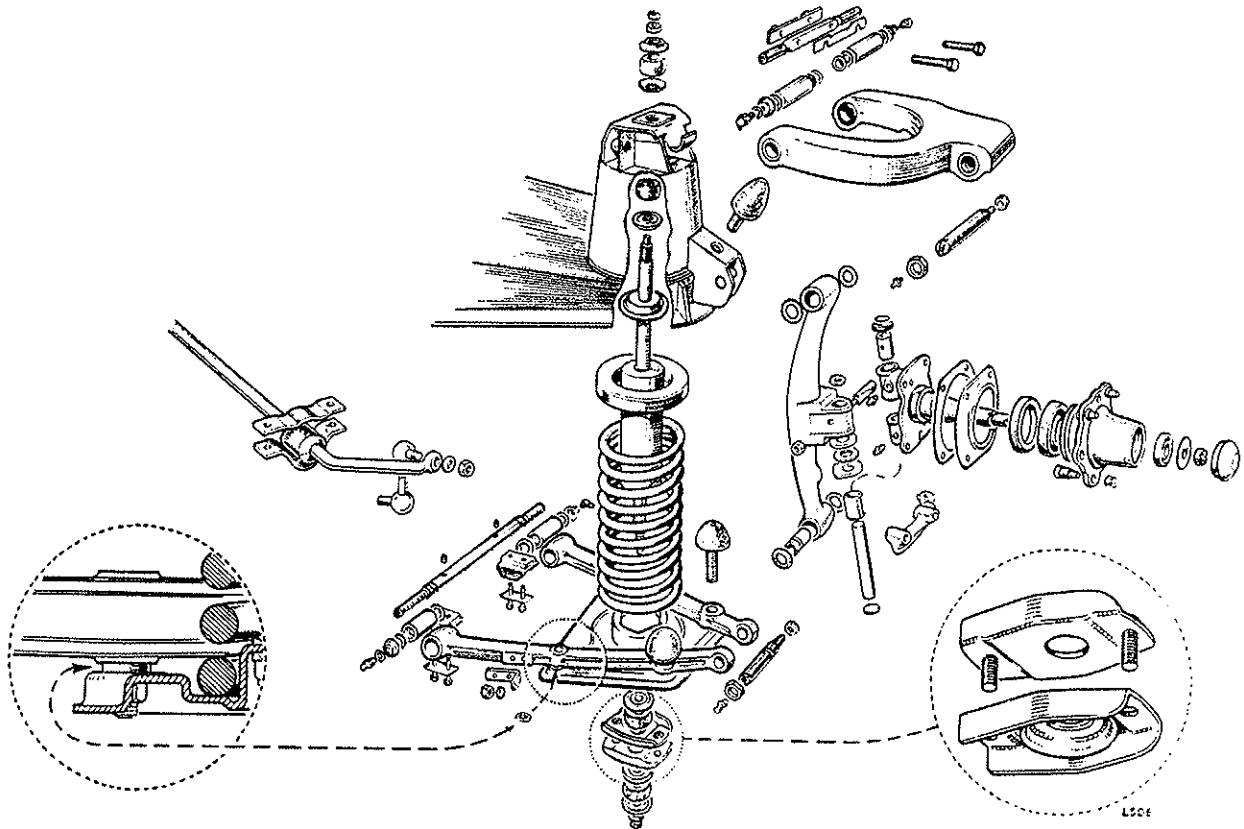

Fig. F.10. Front suspension details (near-side)
1. Ensure that the washers are replaced between the spring pan and the lower link arms at each inner attachment point as shown in Fig. F.10. These washers tilt the spring pan in relation to the link arms and reduce the bowing of the springs on rebound.